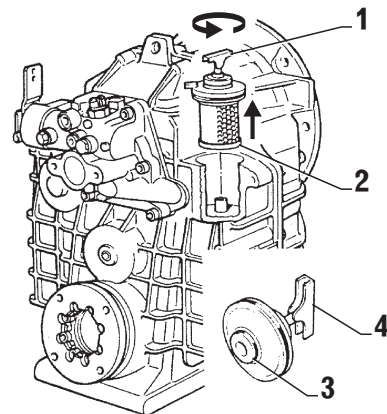

FIG. 1-1
Remove fluid filter (item 1, Fig. 1-1) from housing by turning and pulling at the same time. Pull filter element (item 2, Fig. 1-1) off. Check O-rings (item 3 and 4, Fig. 1-1) for wear, replace if necessary.